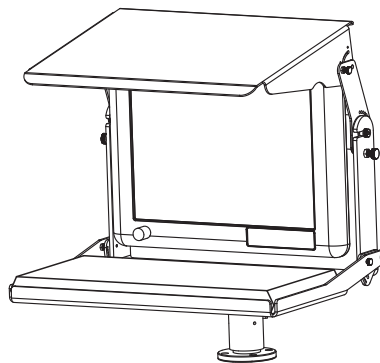

Figure 4.10 Complete yoke assembly with shield and keyboard tray
8. Once secured, set the plunger depth to a retracted nose clearance gap of .03"- .05". Tighten each jam nut to 30in-lb. See Figure 4.10.